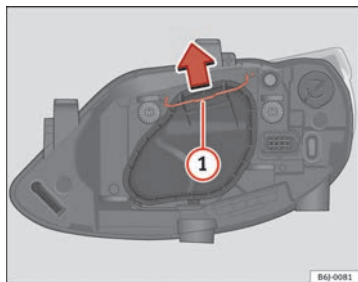

Fig. 153 Dipped beam/
- Move the loop ⇒ fig. 153 ① in the direction of the arrow and remove the cover.